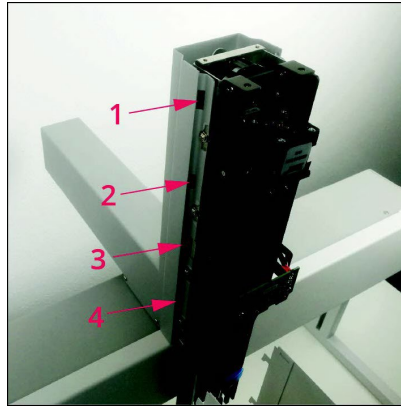

Figure 93: Front Tower Assembly 1
1. For assembling the front tower cover, the tower's rear cover must be mounted. Check out the side openings (1-4) on each side of the tower rear cover for assembling the tower front cover. See Figure 93.